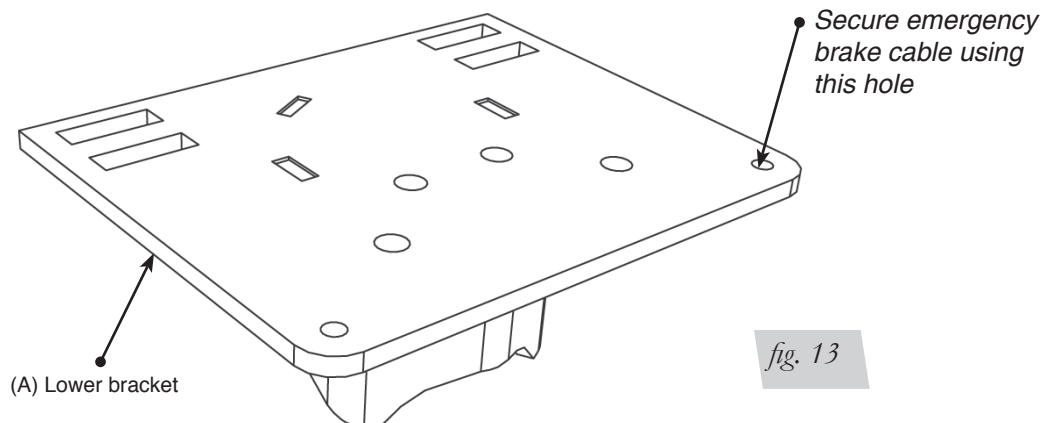

fig. 13
2. Secure the emergency brake cable to the bottom bracket with supplied wire tie using the hole in the corner of the lower bracket (Fig. 13).